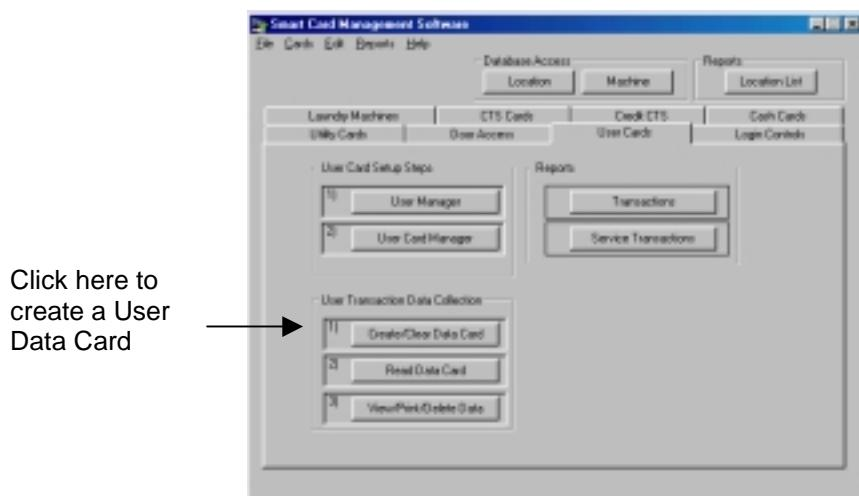

Figure 6.11 Create User Data Card
2. Click the Create Data Card button in the User Cards tab (Figure 6.11).